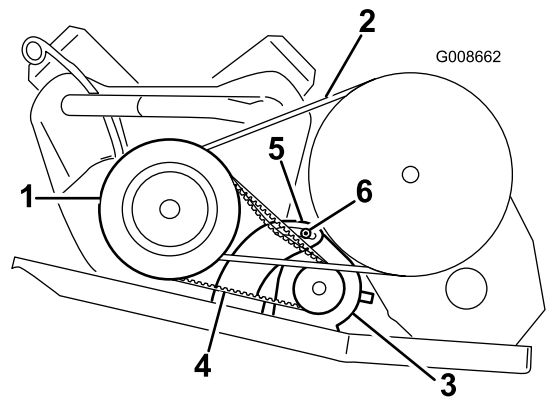

Figure 46
4. Tilt the starter in the slot until the belt flexes 1/4 inch (6 mm) with 10 lb (44 N) of force (Figure 46).
5. Tighten the starter generator nut and remove the pry bar (Figure 46). Torque the nut to 65-85 ft-lb (88-115 N-m).
2. Loosen the starter generator pivot nut (Figure 46).